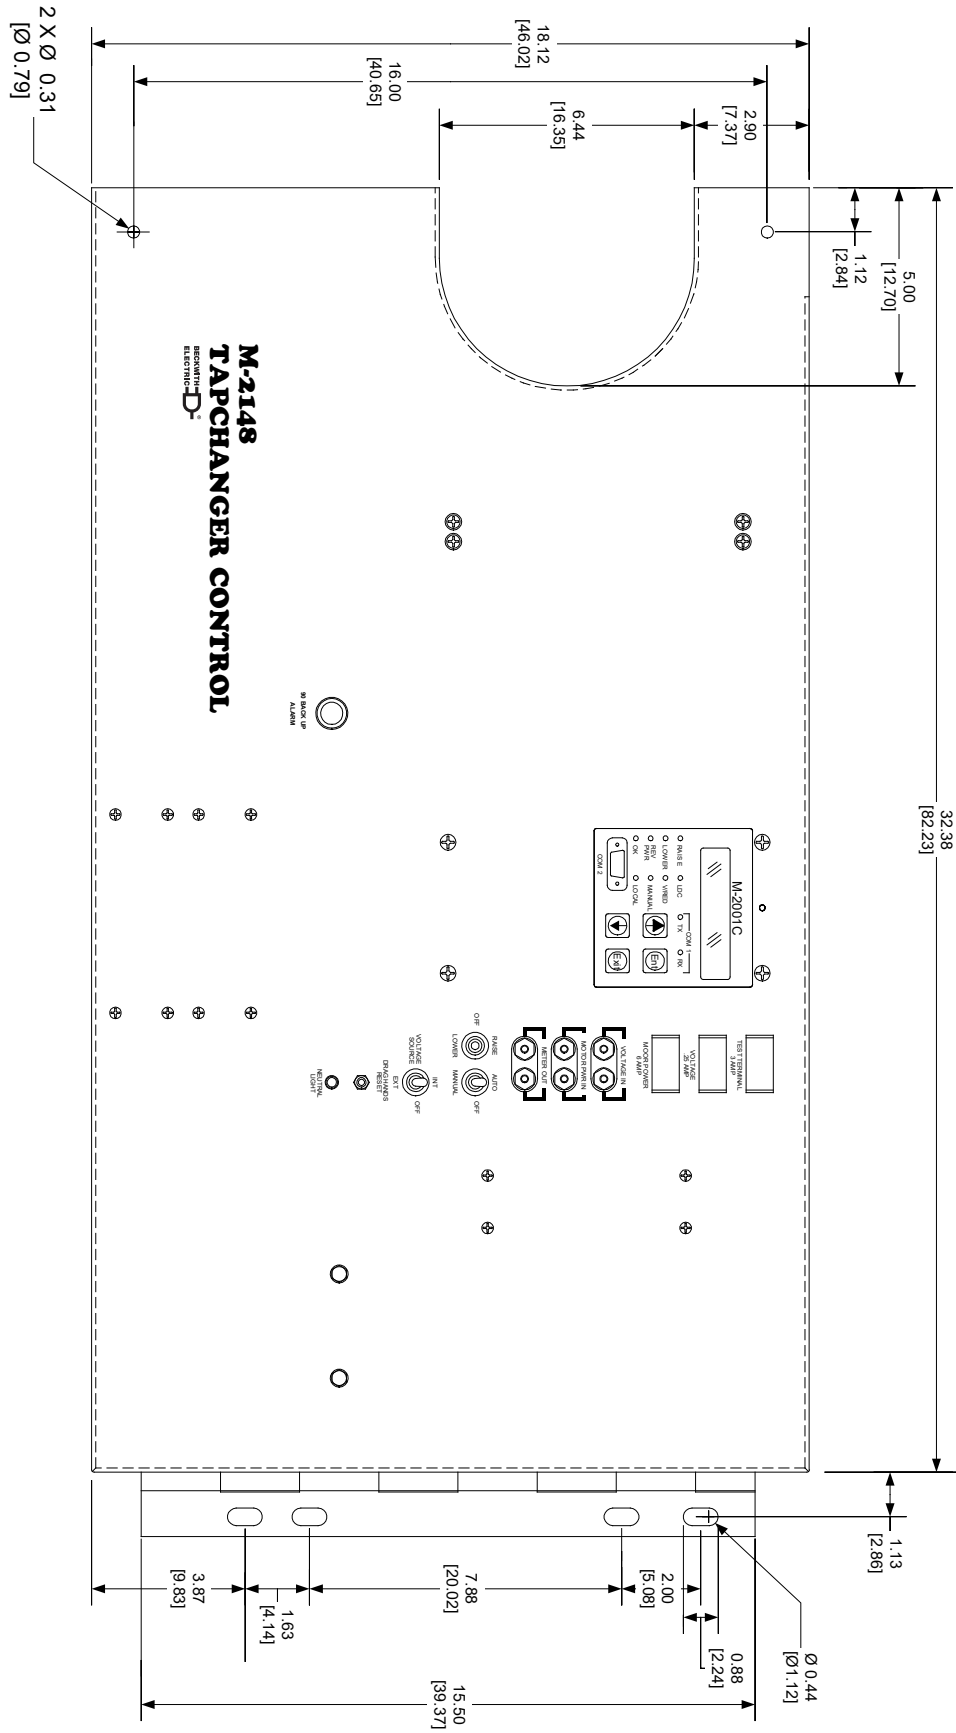

Figure 4 M-2148 Adapter Panel Outline Dimensions
The M-2148 consists of a swinging front door with an attached hinge. The adapter panel mounts to the right side of the control cabinet using the same four hinge mounting bolts used by the original control. Refer to Figure 4 for outline dimensions.
■ **NOTE:** Refer to Figure 4 for mechanical drawing of the M-2148.